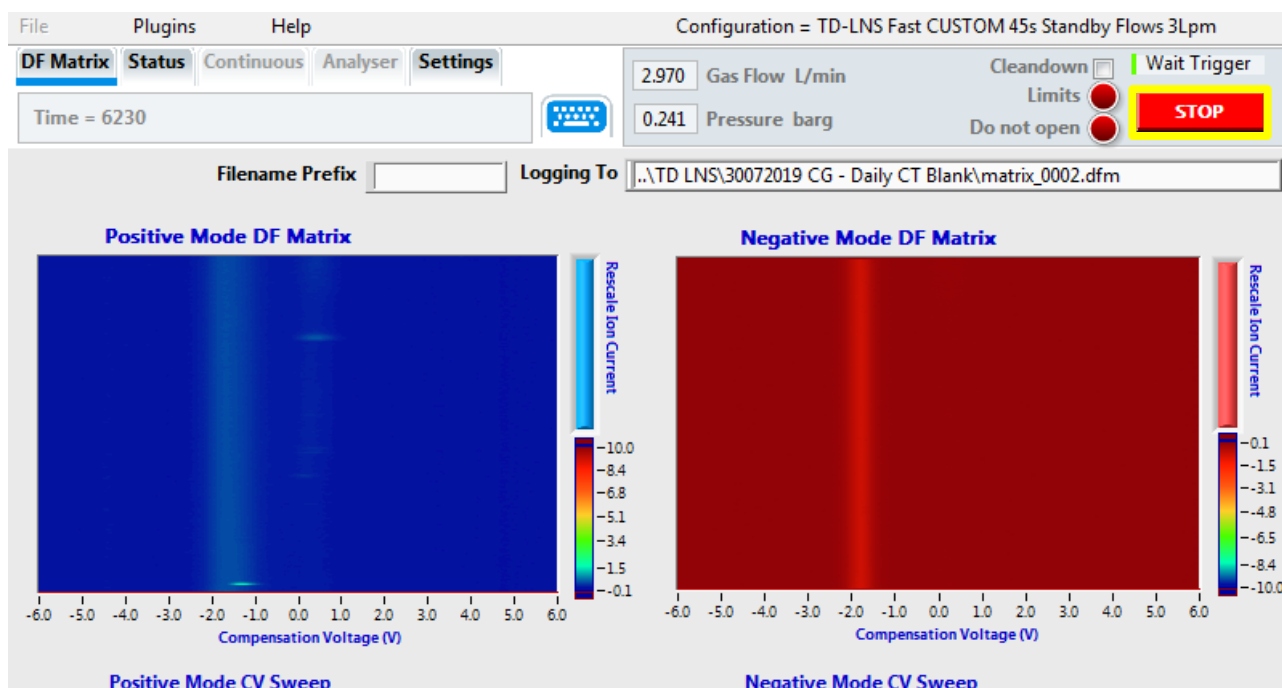

Figure 10. LNS Interface.
4.3.1 Press the red “STOP” button, located to the upper right corner of the LNS interface (Figure 10).